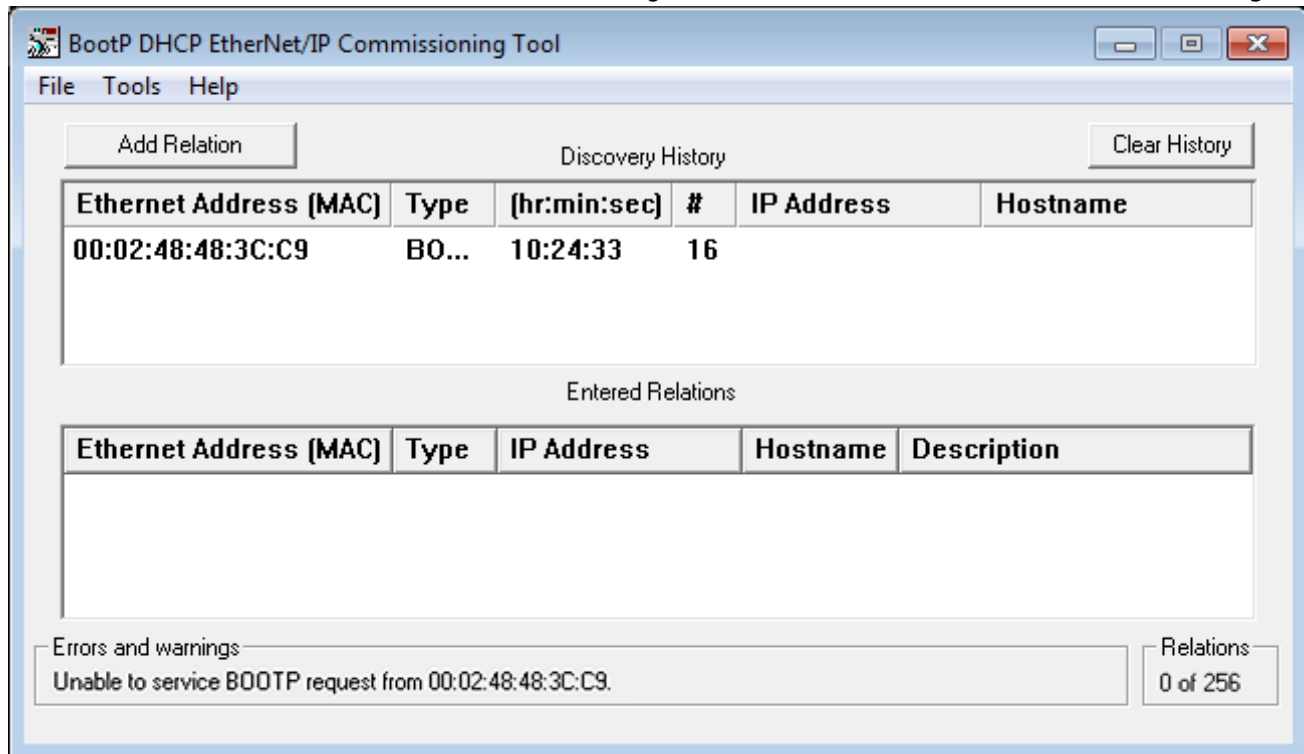

Figure 27: Rockwell – BOOTP DHCP Ethernet/IP Commissioning Tool
4. After a few seconds the connected PSSu2 Head Module is displayed in upper windows section 'Discovery History' (Figure 27) and begin to make requests for an address.